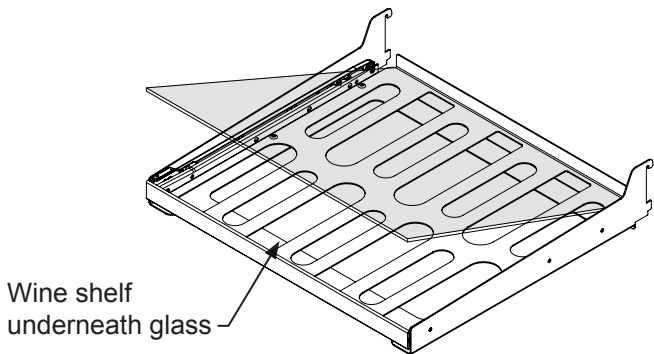

Figure 32
- (2) glide out wine convertible glass shelf. (See Figure 32).
- (1) wine cutout and flat glass cantilever shelf. (See Figure 32).